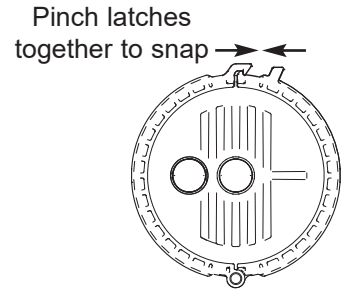

FIG. 15
- Slide the lid assembly down over the replacement cartridge’s ports until it sits flat on top of the sump, then lock the clamp onto the sump by pinching together the latches, as shown in Fig. 15, until they snap. The clamp will not snap unless the cartridge and sump are properly seated and aligned.